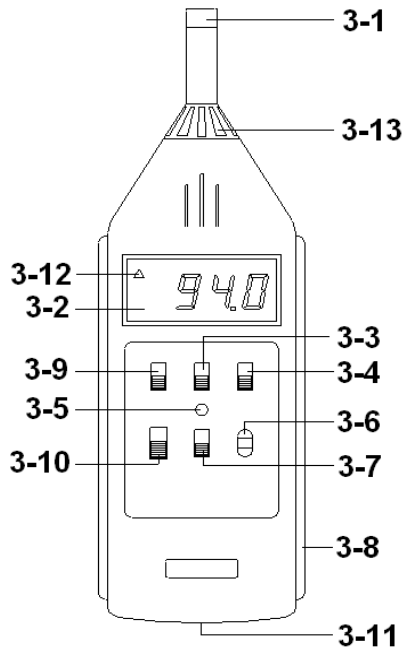

Fig. 1
- 1) Slide the " Power off/On selector " ( 3-10, Fig 1 ) to the " On " position.
- 2) For the instant display reading, slide the " Max. hold & Instant display selector " ( 3-4, Fig. 1 ) to the " Instant " position. General application always select the " Instant " function. For the " Max. hold " function, please refer the 4-7, page 6.
- 3) Slide the A/C weighting selector ( 3-7, Fig. 1 ) to "A" or "C" position for sound level measuring.
- 4) Determine proper measuring range by selecting the " Range selector " ( 3-9, Fig. 1 ) to minimize the tolerance of readout. When left corner of LCD show " ▲ " indicator, ( 3-12, Fig. 1 ), it shows the dB range selection is upper or lower setting. Slide range selector to other range for measuring.
- 5) According on various measuring sound source, select the " Time weighting selector " ( 3-3, Fig. 1 ) to " F " or " S " position.
During the sound level measurement, if intend to hold the maximum ( peak ) value on display, slide " Max. hold & Instant display selector " ( 3-4, Fig. 1 ) to the " Max. hold " position.
- a. *During the operation of " Max. hold function ", push " Reset button for Max. hold function " ( 3-6, Fig. 1 ) once a while will reset the max. peak value.*
- b. *If not use the " Max. hold " function, it should select the " Max. hold & Instant display selector " ( 3-4, Fig. 1 ) to the " Instant " position.*
- 1) The instrument is provided an 3.5 mm Dia. " Phone signal output terminal " ( 3-7, Fig. 1 ) for connecting with analyzer, level recorder, tape recorder, controller ...etc.
- 2) Slide the " Battery Cover " ( 3-11, Fig. 1 ) & take the battery away from the battery compartment..
The sound level meter is built in the internal calibration " Calibration VR " ( 3-5, Fig. 1 ) on the front panel. Please according the following procedures to calibrate the instrument accurately, if it is necessary.
- 1 )Prepare the optional " SOUND CALIBRATOR ", such as " SC-941 " or " SC-942 ". Power on the Sound Calibrator & plug calibrator output into the " Electric condenser microphone " head ( 3-1, Fig. 1 ) of the Sound Level Meter.
- 2) Slide the " Range selector " ( 3-9, Fig. 1 ) to " 60 - 100 dB " position.
- 3) Slide " Time Weighting selector " ( 3-3, Fig. 1 ) to " F " position.
- 4) Slide the " A/C weighting selector " ( 3-7, Fig. 1 ) to " A weighting " position.
- 5) Carefully adjust the " Calibration VR " ( 3-5, Fig. 1 ) with " - " screw driver (include accessory ), until the display read within "  $94.0 \pm 0.2$  " dB.
***8-2 Calibrated via internal 94 dB generator*** The sound level meter is built in the internal standard 94 dB/1 KHz square wave generator for the purpose to calibrate come certain amplifier circuit ( not the complete meter system ). Please according the following procedures to calibrate the instrument before making operation, if the instrument not in use for a long time. The calibration method are similar as above 8-1, but not connect the external sound calibrator ( SC-941, SC-942... ), the other should slide " Power off/On/Internal calibration selector " ( 3-10 , Fig. 1 ) to the " CAL. " position " Carefully adjust the " Calibration VR " ( 3-5, Fig. 1 ) with " - " screw driver ( included accessory ), until the display read within "  $94.0 \pm 0.2$  " dB.